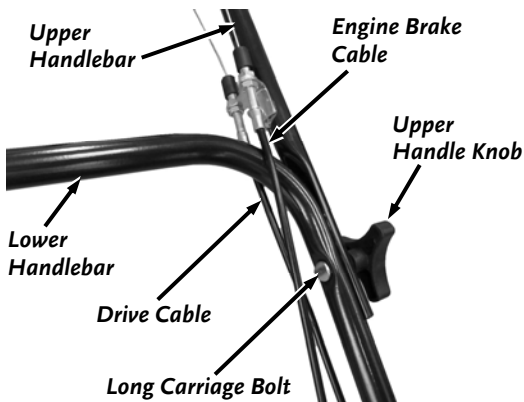

Figure 4
2. Carefully position the Upper Handle with Cables onto the Lower Handlebar (**Figure 4**). Insert the long Carriage Bolts through the Upper and Lower Handlebars. Install and tighten the Upper Handlebar Knobs onto the Carriage Bolts as tight as you can by hand.